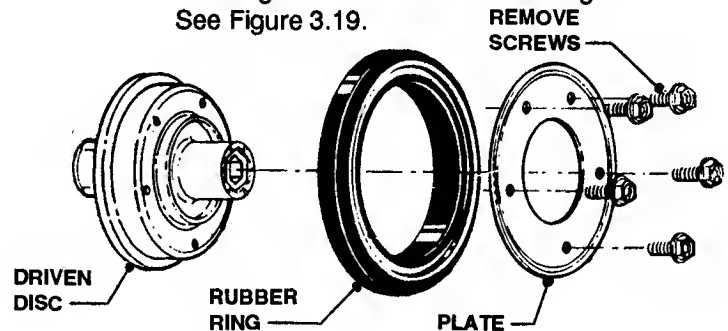

FIGURE 3.19
4. Remove the five machine screws and plate securing the Driven Disc rubber ring to the hub. See Figure 3.19.